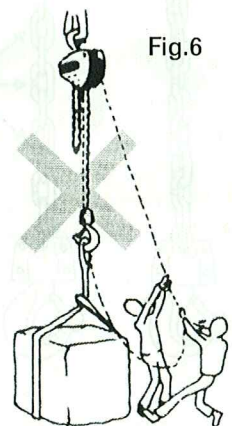

Fig.6
- 6) Do not apply an overload to the chain hoist, that is, do not apply a load exceeding the number of tons (rated load) indicated on the nameplate. The chain hoist is designed to be capable of lifting the rated load by pulling the hand chain with forces 25 to 50 kg. It means that the load exceed the rated load (over-loaded) or the chain hoist is not in order, when the hand chain has to be pulled with force more than the said values. Never continue to use the chain hoist in such conditions where the hand chain cannot be easily pulled. (Fig. 6)